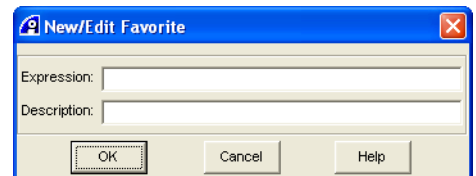

Figure 8-4 New/Edit Favorite dialog box
4. Click **New** to open the New/Edit Favorite dialog box. Figure 8-4 shows an example: